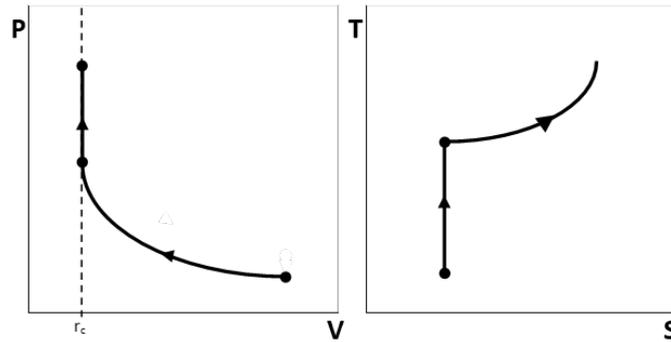

Fig.4.6: Stages 1-2-3 of the Otto cycle
**2-3:** Constant volume heat addition, Fig.4.6 shows the second stage in the cycle.